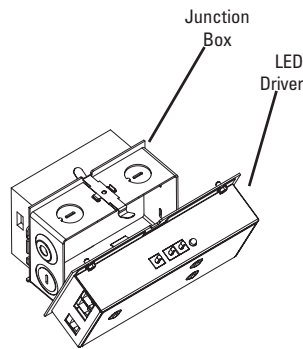

Figure 4
5. Remove knockouts on junction box to feed power supply to fixture as shown in Figure 4. Supply wire must meet applicable electrical codes and be rated for a minimum of 75° C. Junction box is thru-wire rated for (8) No.12 AWG conductors (4 in - 4 out).
7. Complete necessary splices. Snap the LED driver assembly onto the junction box as shown in Figure 4.
3. Remove knockouts on junction box to feed power supply to fixture as shown in Figure 4. Supply wire must meet applicable electrical codes and be rated for a minimum of 75°C. Junction box is thru-wire rated for 8-No. 12 AWG conductors (4 in - 4 out).